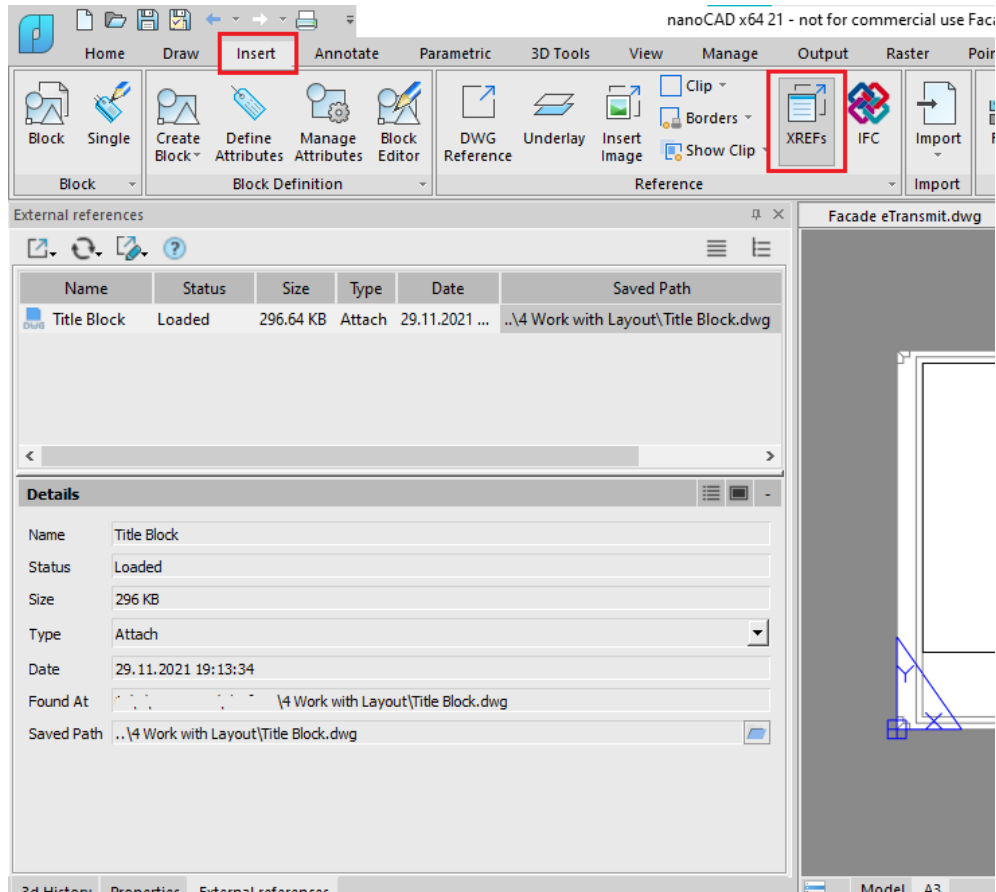

Fig. 42. External references
1. Open the External References toolbar (fig. 42):